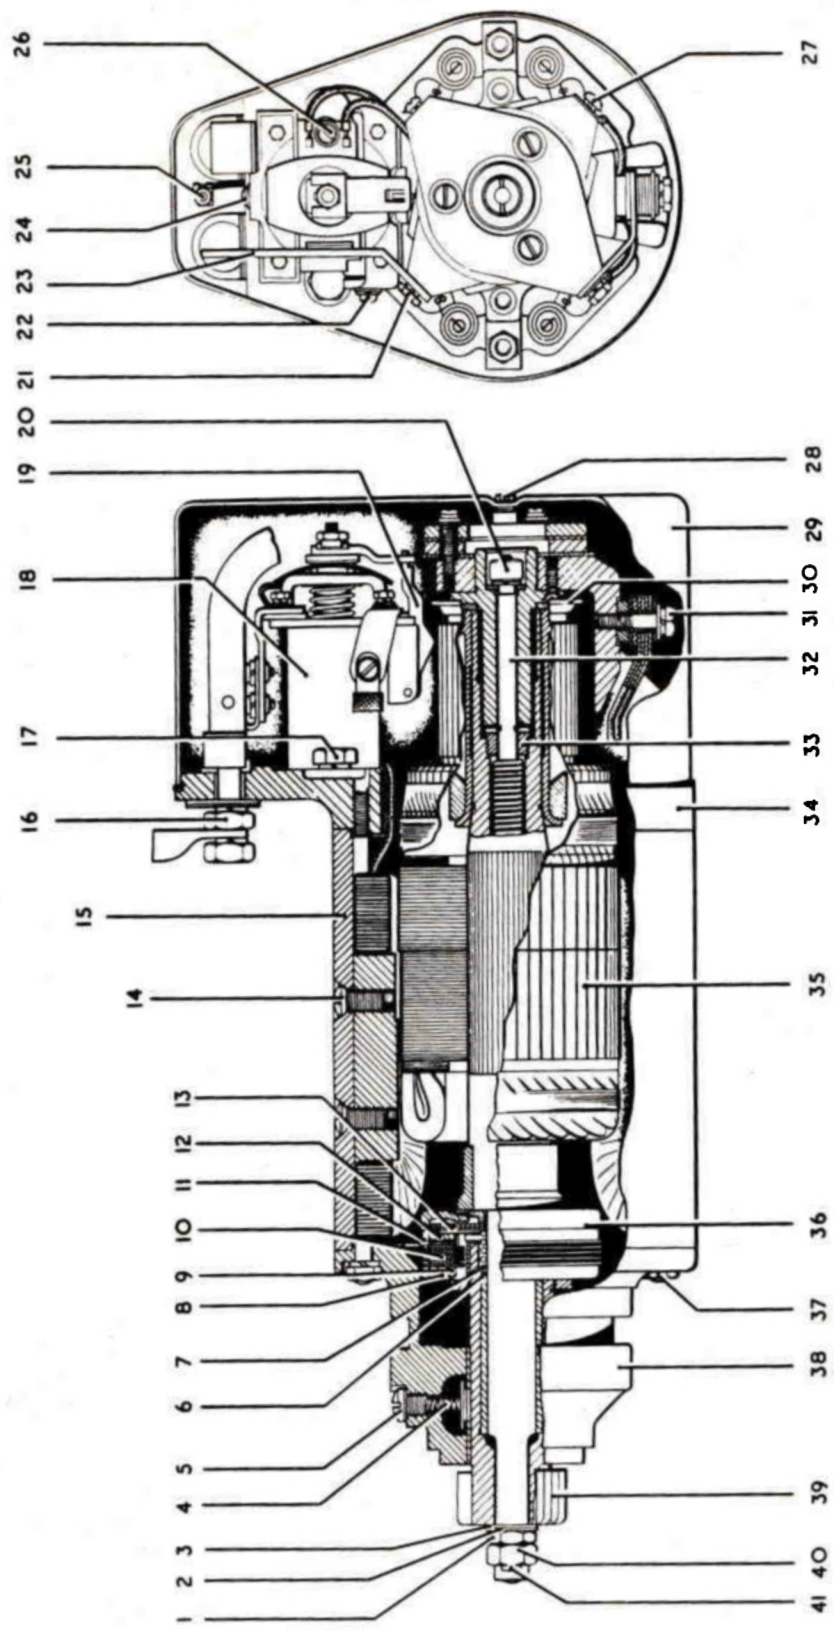
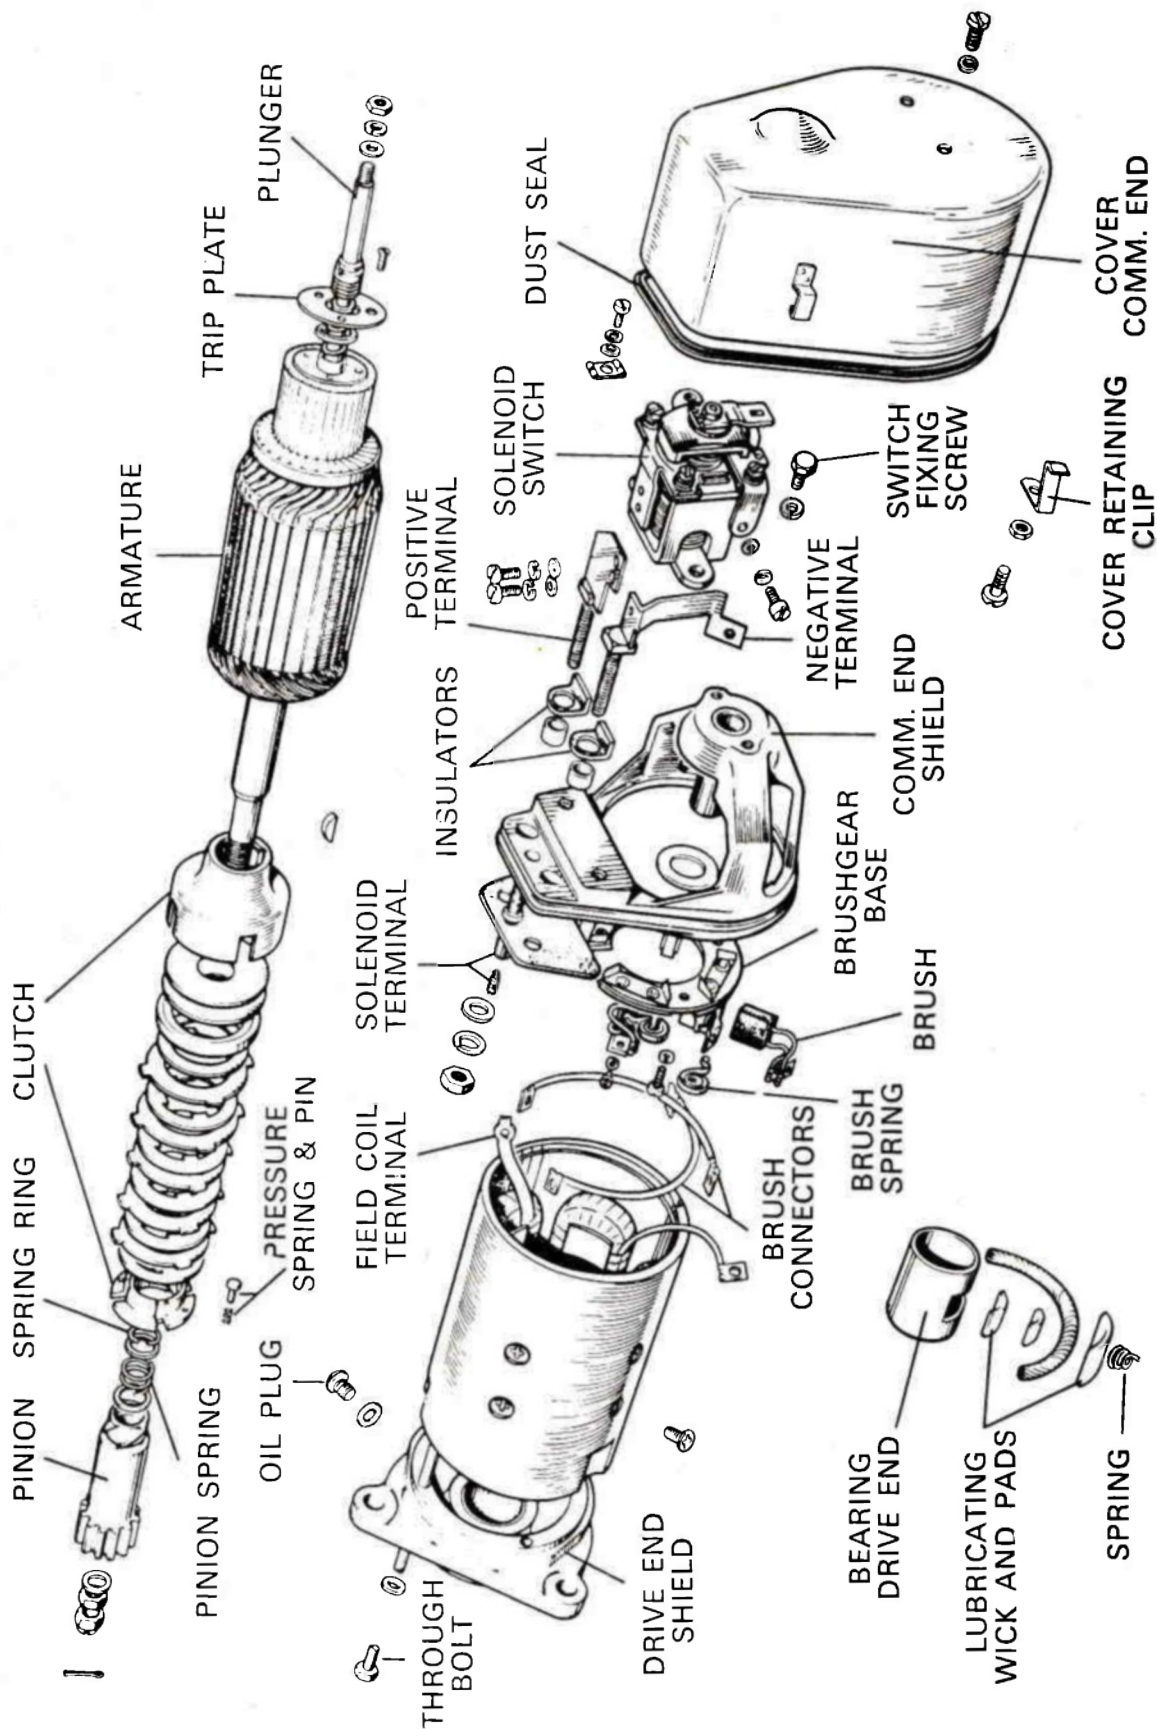

Fig. 1. Sectioned view of typical 'Axial' starter with 'cast' brush gear
Fig. 3. Exploded view of SL5 starter with 'pressed' brush gear
When the starter switch is operated, the first stage contacts on the solenoid switch (18) Fig. 1 close, and a small current passes through the auxiliary field windings, causing the armature to rotate slowly. Simultaneously, the complete armature assembly (35) is drawn towards the driving end of the machine by the magnetic field set up in the windings, and the pinion (39) is brought into mesh with the engine flywheel gear. As the armature nears the end of its axial travel, the tripping disc (30) operates the trigger (19) on the solenoid switch, causing the second stage contacts to close and complete the circuit to the main series winding. The starter then exerts its full torque on the engine. The overload clutch (36) will come into operation should an excessive load be applied to the pinion.
The following dismantling instructions are set out to deal with starters having 'cast' brass brush holders and the figures in brackets refer to Fig. 1. Other starters of the same basic design have 'pressed' type brush holders as well as other small modifications and the construction is shown in Fig. 3. Dismantling procedure is virtually the same. Exceptions are noted.